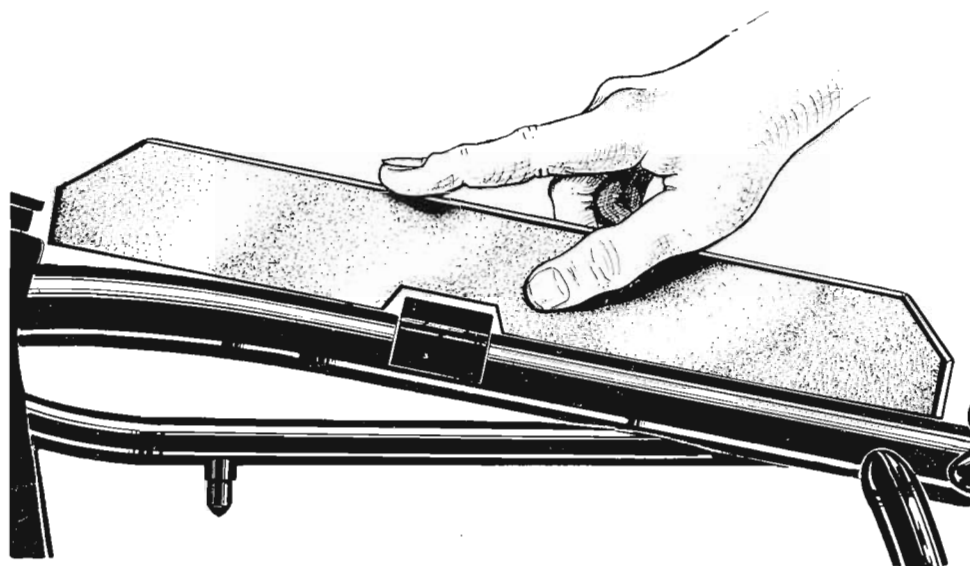

FIG. D.5. *Showing bent top tube.*
Sometimes if the machine has been subjected to a frontal impact, the main tube may remain parallel at points (A) but will be bent as shown in Fig. D.5. A straight-edge, made from a piece of good quality hardboard can be used for this purpose, but the checking edge must be quite straight.